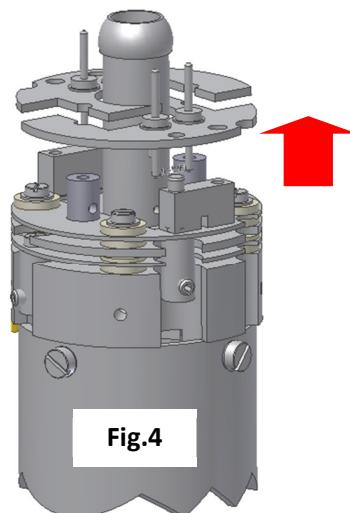

Fig.4
5. Remove the two filament plates. Carry out this step carefully so as not to damage the filaments, see Fig.4.